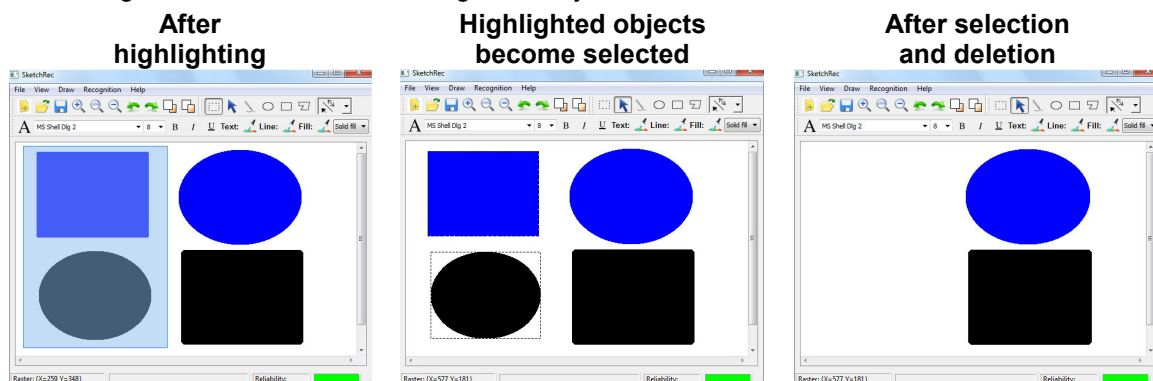
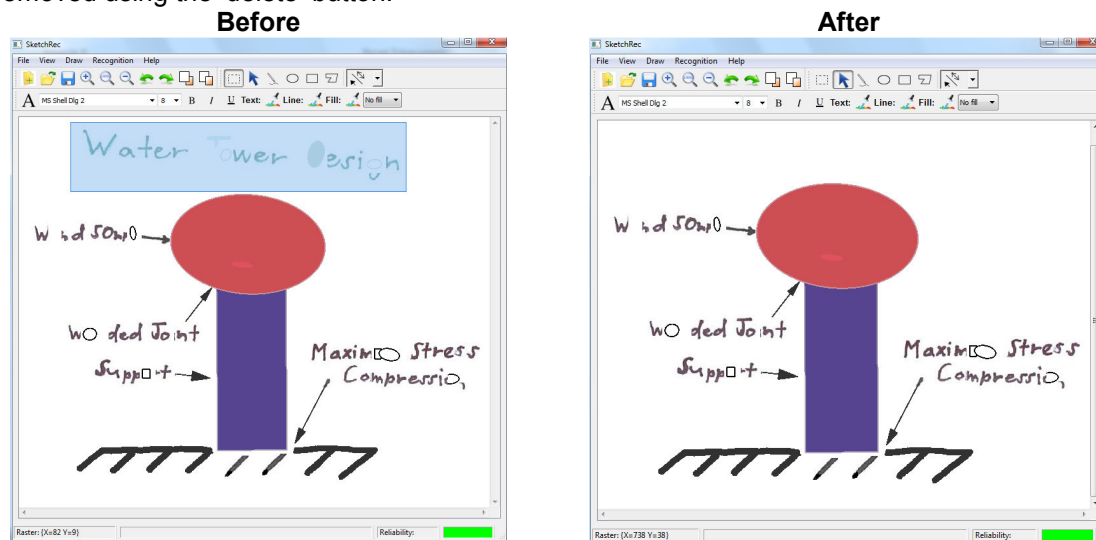

Figure 6: Simple example of area selection.
Figure 14: Removal of undesired vector items.
Object selection is achieved by simply clicking once on the object of interest. This will result in SketchRec™ rendering contours of the object, as well as its bounding box, as a thin, black, dashed line (see Figure 6 or Figure 14 for an example).
To deploy the area selection, the user simply clicks on the icon with the dashed rectangle and specifies the corner points of the rectangle whose content is to be deleted, either with the mouse or the stylus. As a result, the objects inside the selection area, and their bounding boxes, are visualized with a dashed line, indicating they have been selected (see Figure 6). The user then simply presses on the delete key on the keyboard. This tool can be very effective.
1. The rectangle specified identifies the objects located inside it with high degree of accuracy (see the image to the left in Figure 6).